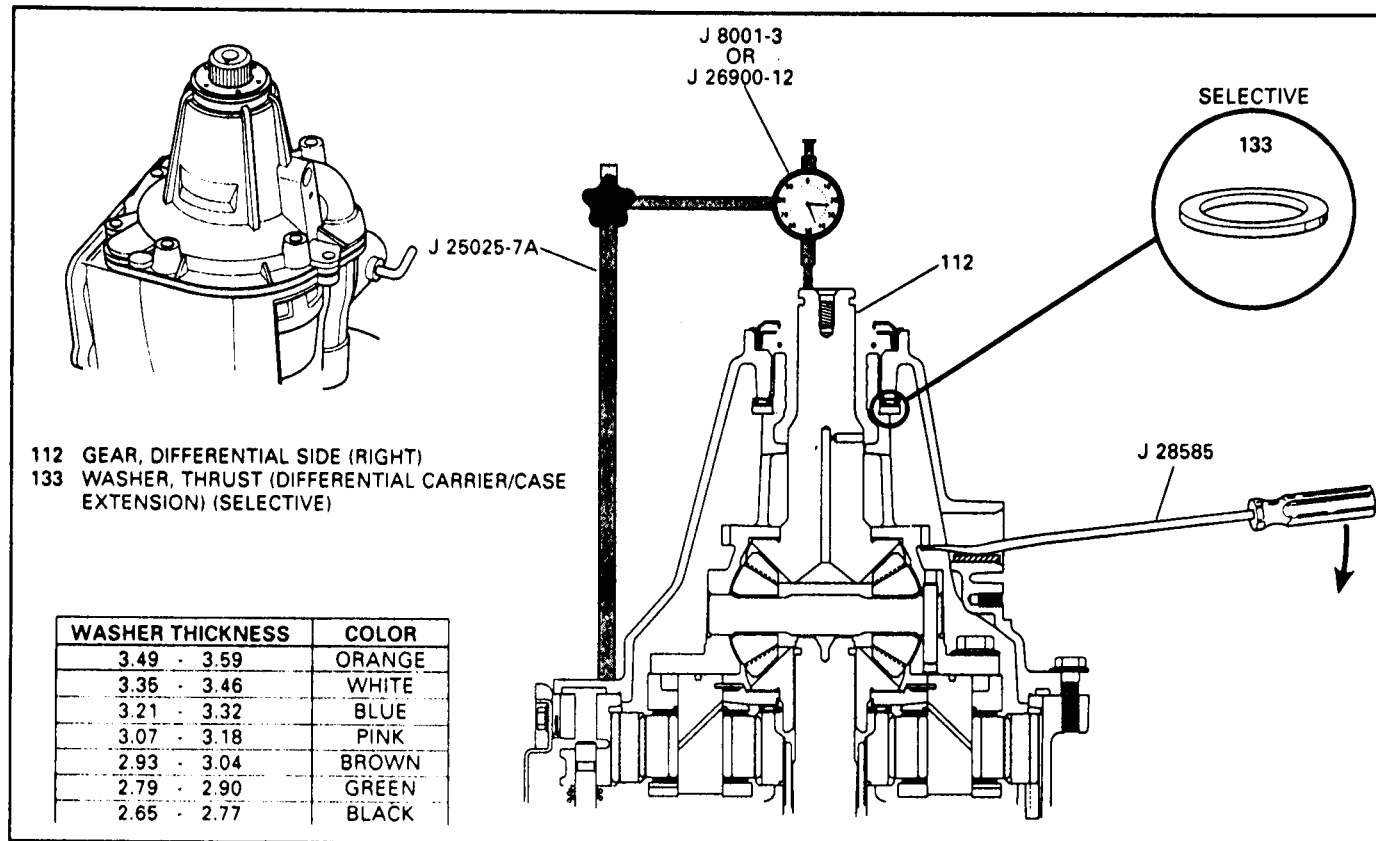

Figure 42
1. Install dial indicator J-26900-12 onto transaxle, as shown in Figure 42.
2. Position dial indicator with stem on output shaft as shown in Figure 42.
4. Insert J-28585 through output speed sensor bore and lift speed sensor rotor for measurement (See Figure 42).
7. Use the chart in Figure 42 for the proper selective thrust washer.